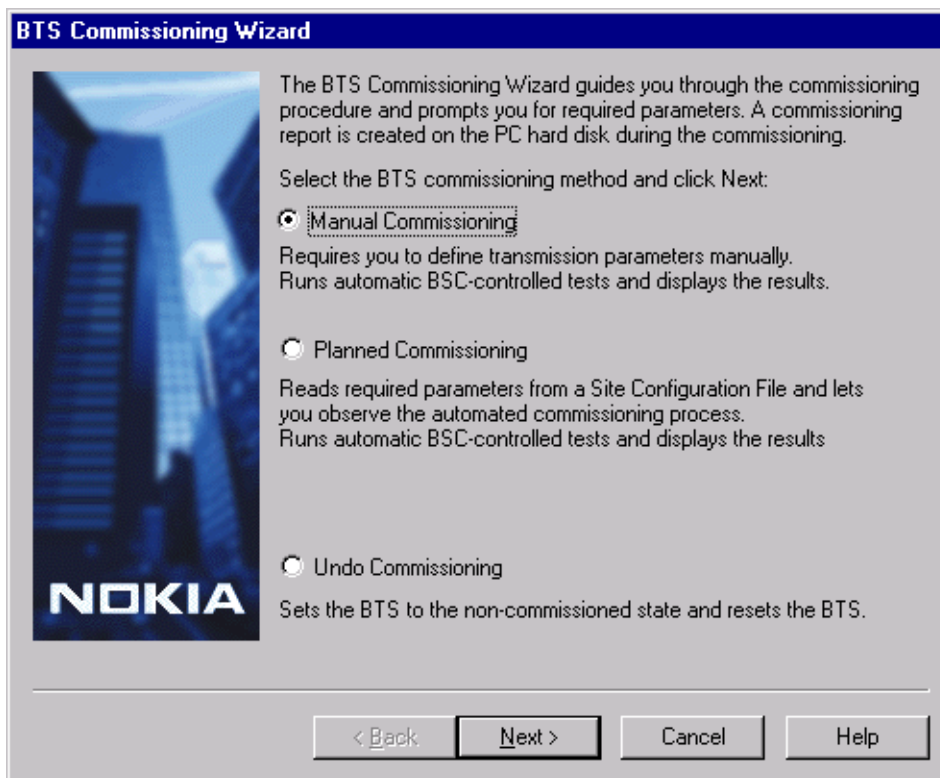

Figure 3. Manual commissioning option
- Figure 3. Manual commissioning option **18**